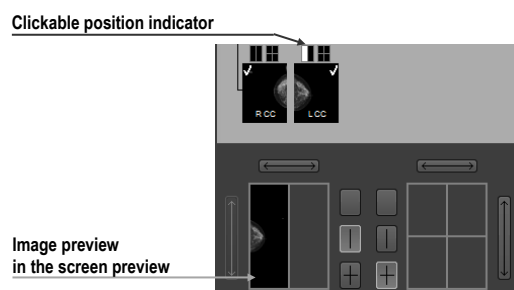

Figure 451 – Selecting an image to view using the rectangle indicator
- Click the desired rectangle in the screen position indicator representing the view in the working area (see Figure 451). The image is displayed in the appropriate view in the workspace on the left or right monitor.